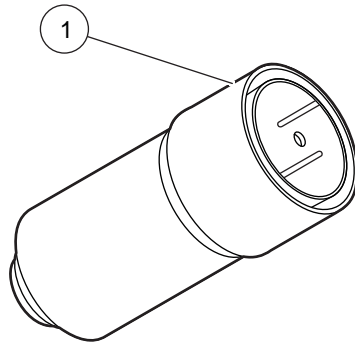

Figure 31 Removal of the pump body
8. Remove the pump body (refer to Figure 31).